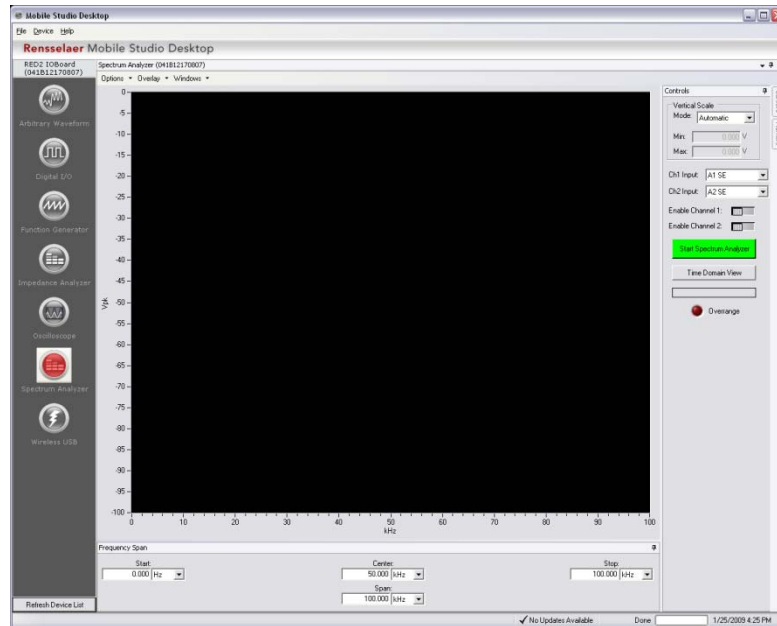

Figure 4-0: Spectrum Analyzer
- 1) Open the *Spectrum Analyzer* by selecting the icon second from the bottom on the panel along the left side of the window, shown in Figure 4-0 below.